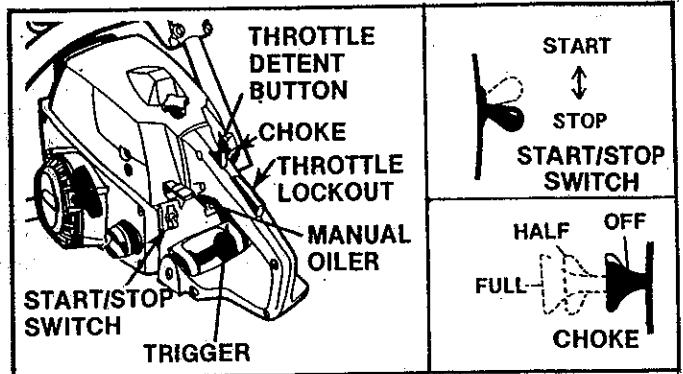

Figure 18
Understanding the control devices on your saw is an important part of learning how to properly and safely operate the unit. Figure 18.
- h. Stop engine by moving the ignition switch to the "STOP" position (Figure 18).
* Allow engine to warm-up thoroughly on half choke 1-2 min.; then move choke to "Off" position. Do not cut with the choke at the "On" or "Half" position. Figure 18.